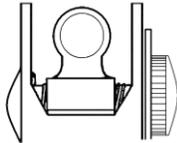

Figure 2-2 Short range aperture
- D.1.c (1) (a) 3 For close range firing, at moving targets or in low visibility, use the short-range (0-200 meter) aperture (see Figure 2-2). For CRC, use short-range aperture.